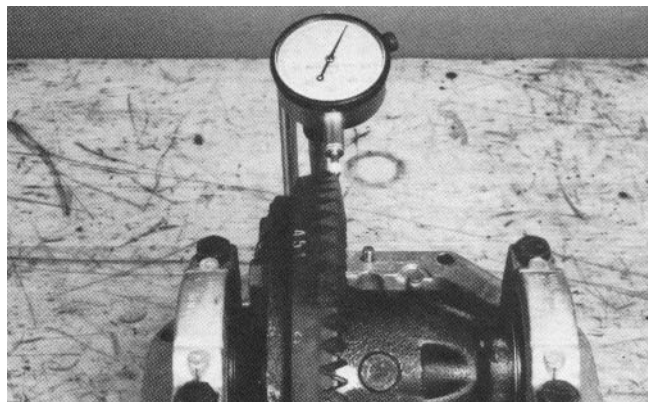

Figure 40
20. Using a dial indicator, check the ring gear backlash in three equally spaced points. Ring gear backlash should be .003-.007 inch (.076-.178 mm) and must not vary more than .002 in. between points checked (Fig. 40).